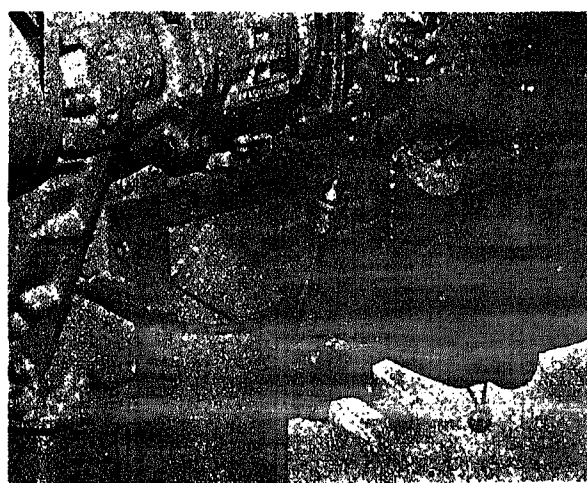

Fig. 2-1. Lubricating oil priming points
2. Remove $\frac{1}{4}$ in. pipe plug from the oil gallery (1, Fig. 2-1) on engines from top (2) lubricating oil filter head for paper-element filters.